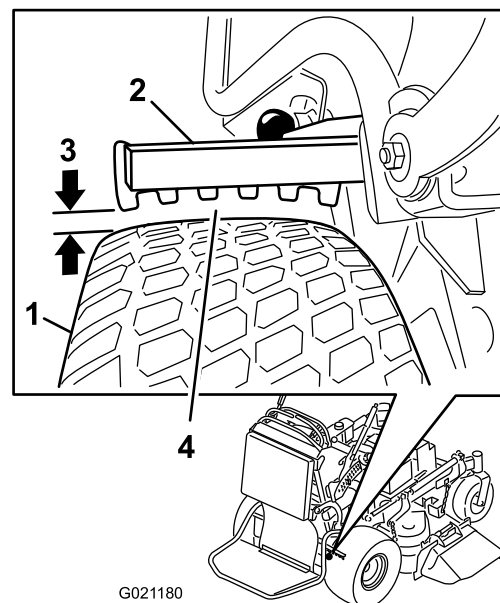

Figure 61
6. Using the side with the smallest clearance, ensure that the distance is between 3 and 6 mm (1/8 and 1/4 inches) (Figure 61). Refer to Adjusting the Brakes (page 44) when adjustment is needed.
5. Adjust the yoke. The distance between the brake bar and the tire needs be between 1/8 and 1/4 inches (3 and 6 mm). To tighten the brake, rotate the yoke up. To loosen the brake, rotate the yoke down (Figure 61).